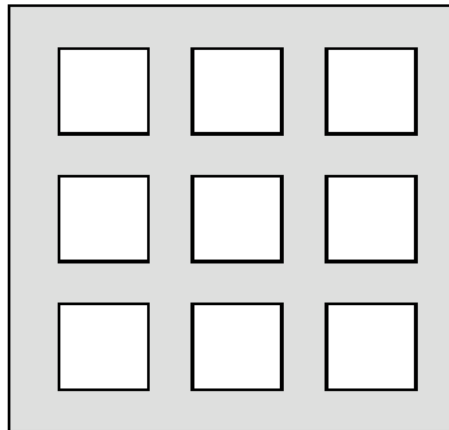

Figure 11: Solder paste application on exposed pad
3. For the PCB thermal pad, solder paste should be printed on the PCB by designing a stencil with an array of smaller openings that sum to 50% of the QFN exposed pad area. Solder paste should be applied through an array of squares (or circles) as shown in Figure 11.